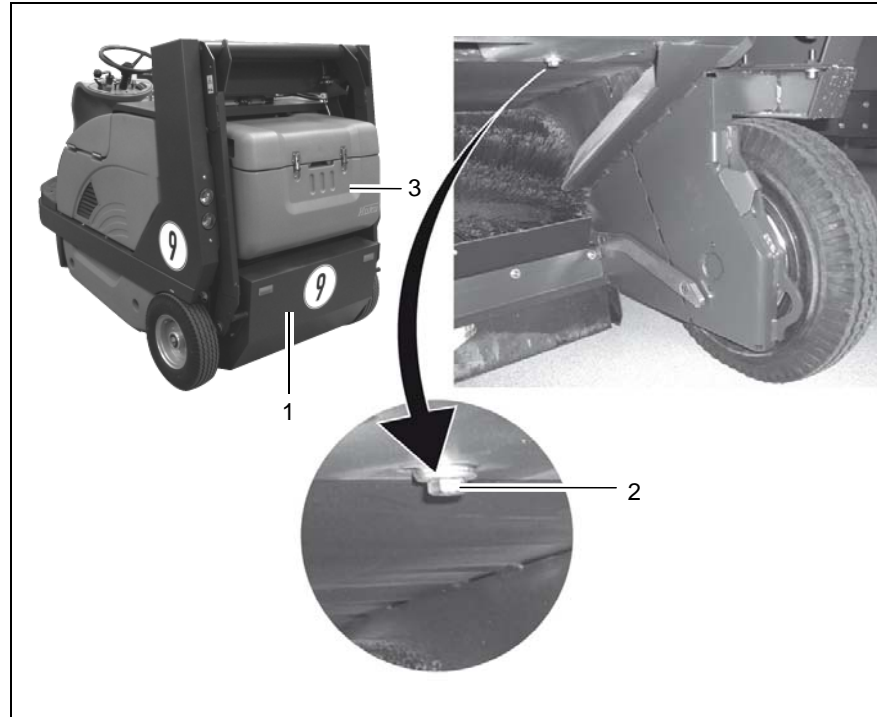

Fig.24
- Move up the dirt hopper (Fig. 24/1).
- Place recipient under the drain plug (Fig. 24/2), drain plug is located underneath the hydraulic case (Fig. 24/3), and remove drain plug (Fig. 24/2).